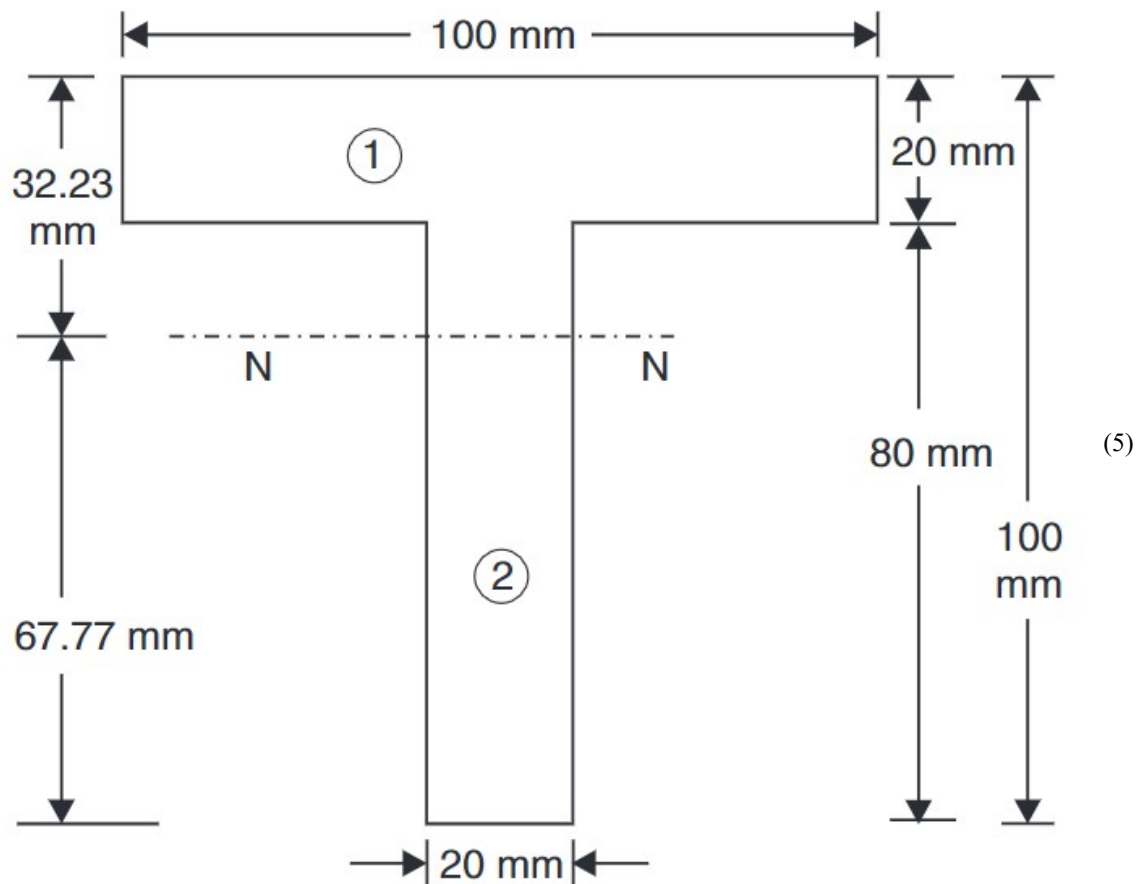

Figure 4
- 2) A T-section cast iron beam as shown in the figure 4. The beam is simply supported on a span of 8m. The beam carries a uniformly distributed load of 1.5kN/m length on the entire span. Determine the maximum tensile and compressive stresses.